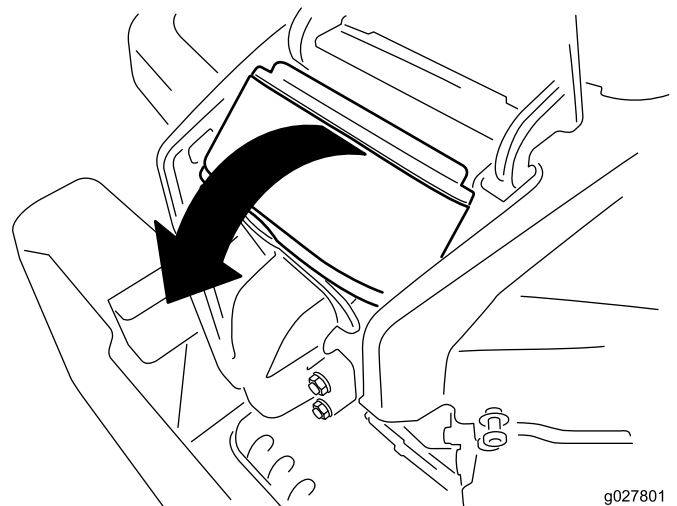

Figure 33
4. Lift the cover and rotate the air-cleaner assembly out of the engine (Figure 33).